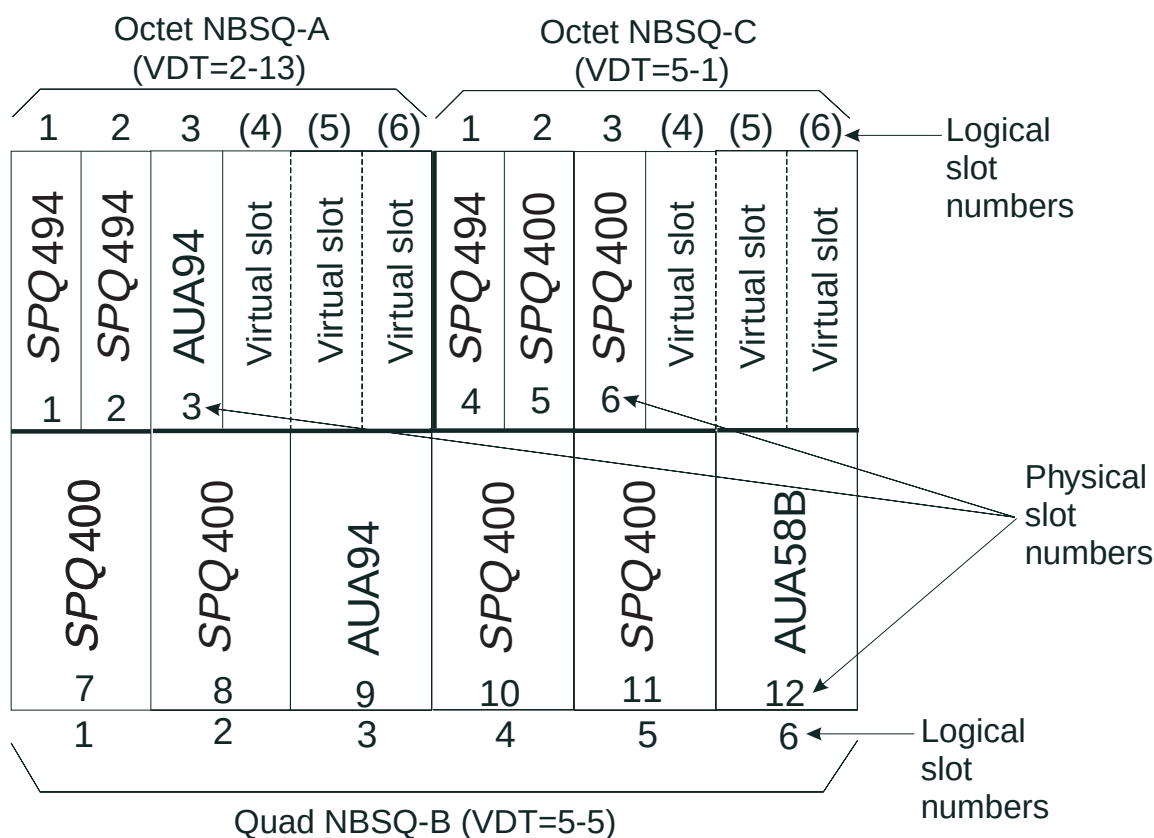

Figure 1 – Equipping NBSQ-A and NBSQ-C in Octet Mode and NBSQ-B in Quad Mode
The time slots associated with these ten ISDN lines must be correctly cross-connected to the actual channel units slots in the NBS using the CIT **ent-crs-t0** command. The system uses a *virtual channel unit slot* concept for the ISDN time slots to be correctly cross-connected to the actual slots in the NBS. Using the *virtual* concept as shown in Figure 1, the SLC-2000 HDT software, when provisioning ISDN circuits, "thinks it sees" a six-slot V-DT instead of a three-slot V-DT. As Figure 1 shows, slots 4, 5, and 6 of the V-DT are *not* physically present. However, they are present in the software and are called *virtual slots*.
- All channel unit circuit packs are located in NBS slots as shown in Figure 1.
Example 1 of setting mode (Figure 1):
Example 1 of creating cross-connections (Figure 1):
The slot numbers that appear in parentheses in the following example are the logical slot numbers shown in Figure 1.